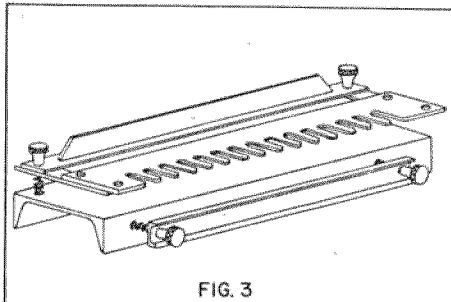
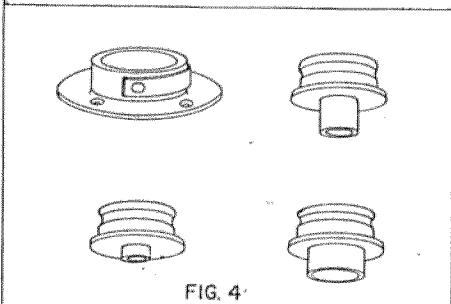

FIG. 3
FIG. 4
**FIG. 3, DOVETAIL TEMPLATE, MODEL NO. 315.25720**—For use in conjunction with Router and Guide Bushing, Figure 4, to make dovetail joints for joining drawer sides and ends. A template is a "must" for perfect fit of drawer sides and ends.
**FIG. 4, GUIDE BUSHINGS AND ADAPTER, NO. 25059**—The Adapter attaches to the router base. Afterwards, any one of three guide bushings furnished may be snapped into place in the adapter. The bushing circumference rides against a template edge to guide the bit for cutting. Since each of the three bushings has a different diameter, three different selections of spacing between the bit and template edge are available.  $\frac{1}{2}$ " diameter bushing used with Dovetail Template (Fig. 3 above).